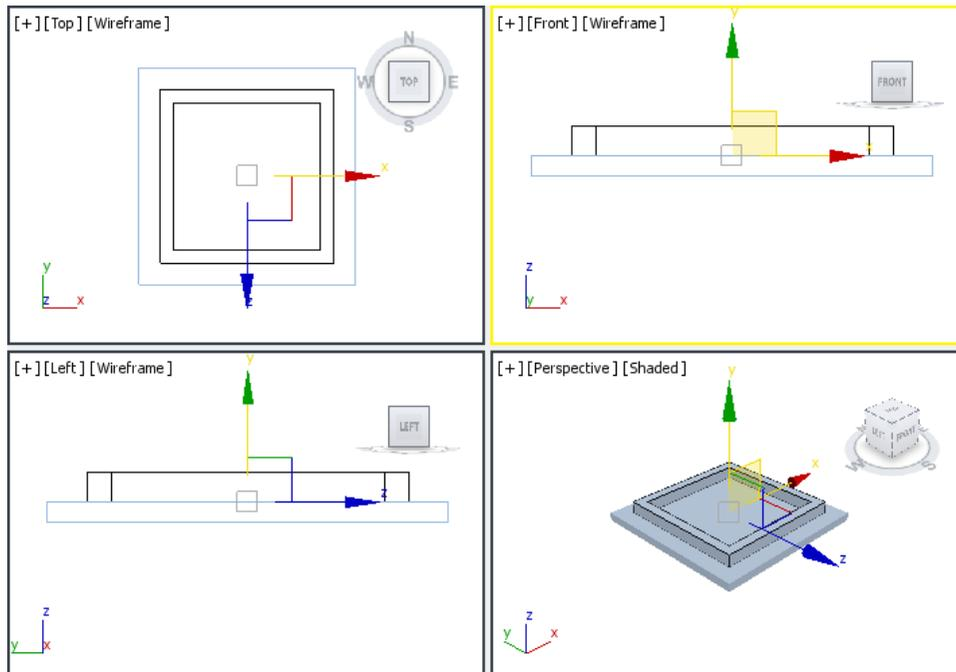

Figure 5-5 The Frame aligned
- In the Front viewport, move *Frame* so that its bottom touches the upper part of *Top*, as shown in Figure 5-5.